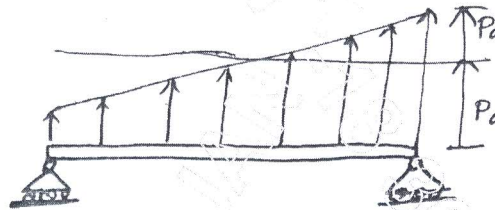

Fig.Q10(a)
- 10 a. Obtain the solution for simply supported circular plate of radius  $R_0$  under linear pressure distribution as shown in Fig.Q10(a).